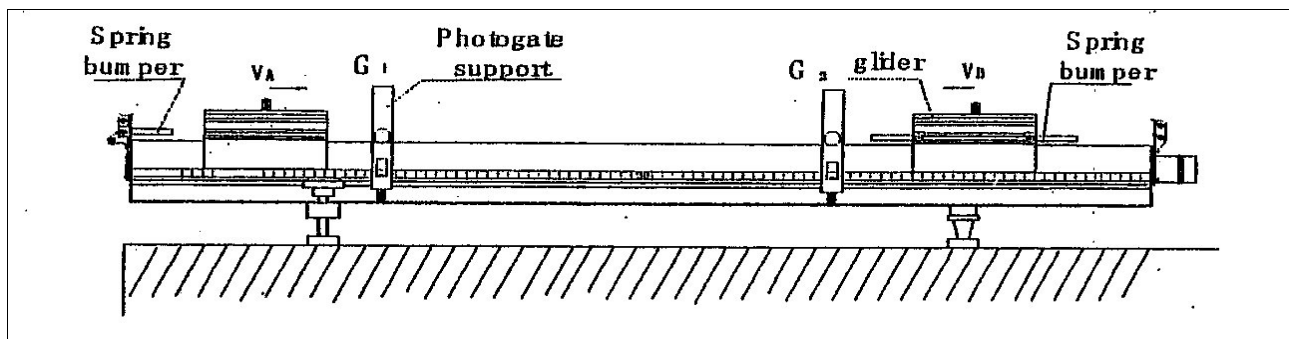

Figure 4.4.1: Elastic Collision
- Step 1: Set up the apparatus as shown in Figure 4.4.1. Level the track as described in paragraph 3.3. Install spring bumpers at both ends of the track. Install two photogate at about the 30cm and 90cm positions.